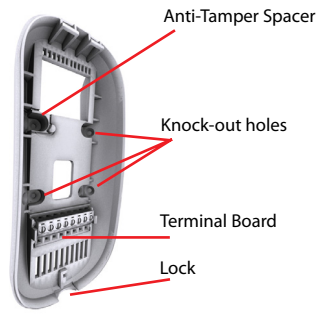

Figure 3 – HD77 Camera Back Plate
- Run the cable through the bottom of the swivel hinge housing (3), swivel hinge (4), and adapter plate (5).
- Determine the HD77 camera angle of view and secure the angle by attaching the angle bracket (6) to the adaptor plate and inserting a pan head screw #6-32 through the angle bracket and adaptor plate and attaching them to the swivel hinge.
- Mount the HD77 camera back panel (7) to the swivel bracket with a screw through each knock out hole and through the anti-tamper spacer (see figure 3).